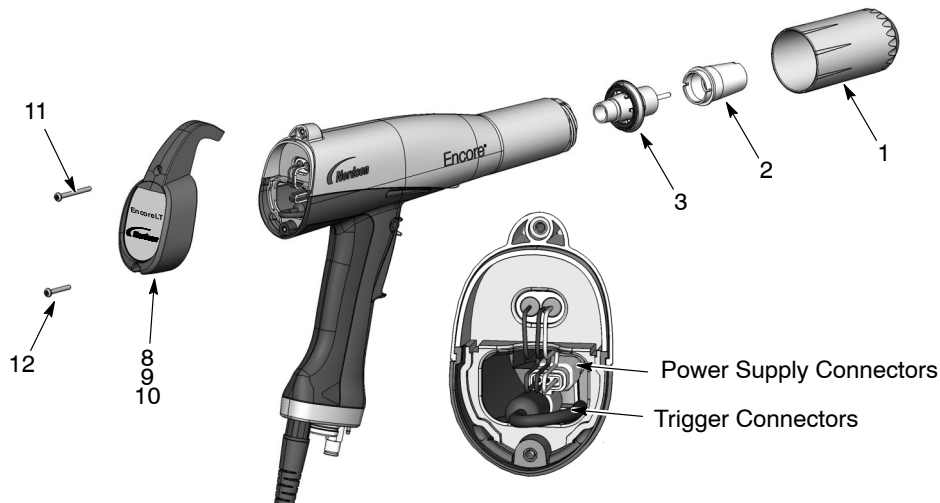
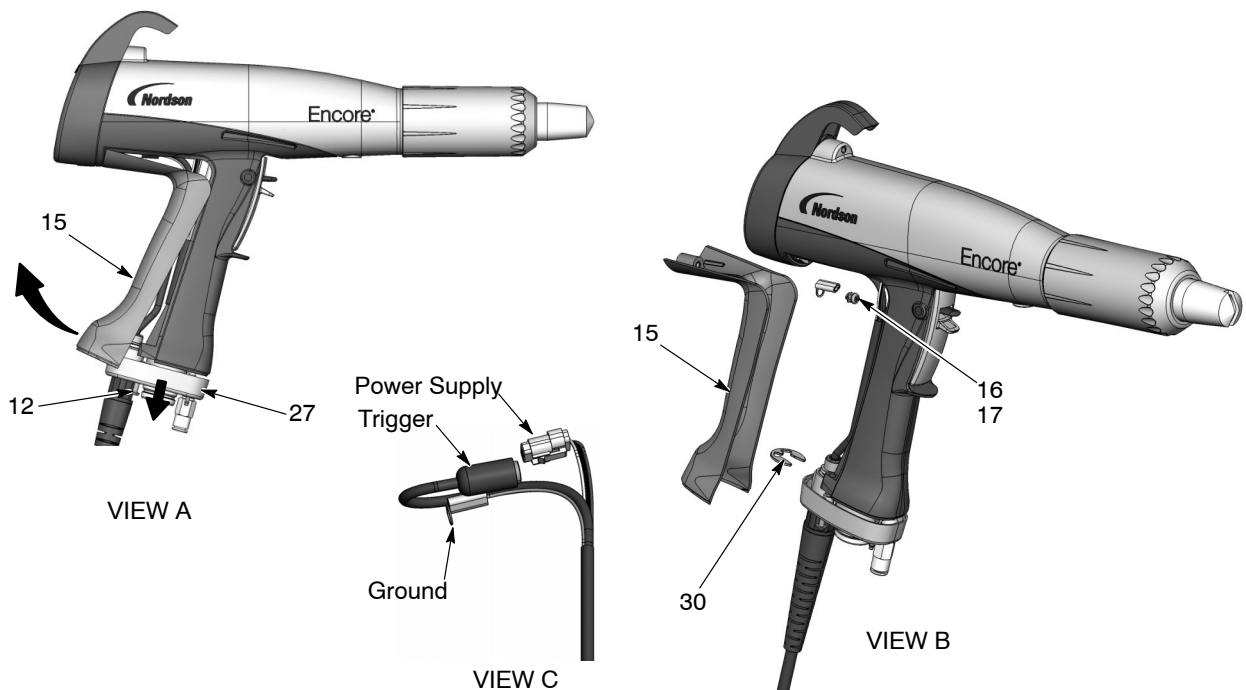

Figure 6-1 Gun Disassembly
Figure 6-6 Cable Replacement
1. See Figure 6-1. Remove the nozzle nut, nozzle, and electrode assembly (1, 2, 3).
4. See Figure 6-1. Install the cover, housing, and hook as shown.
5. Install the electrode assembly (3) into the front of the gun body. Make sure the wire electrode is not bent or broken.
6. Install the nozzle (2) on the electrode assembly, making sure the keys in the electrode assembly slide into the slots on the nozzle.
7. Install the nozzle nut (1) over the nozzle and rotate clockwise to secure.
2. See Figure 6-1. Remove the bottom screw (12) from the housing (9).
3. See Figure 6-6, View A. Loosen the two M3 x 20 screws (12) securing the handle base (27) to the handle.
4. Pull the base away from the handle enough to free the bottom edge of the ground pad (15) from the base.
6. See Figure 6-6, View B. Remove the M3 x 8 screw, lock washer (16, 17), and ground terminal from the ground pad.
7. Remove the E-ring (30) from the cable.
8. See Figure 6-6, View C. Pull the cable connectors out of the handle. Disconnect the power supply harness from the gun cable by inserting a small flat-bladed screw driver in the slot of the power supply harness connector to release the catch.
1. See Figure 6-6. Feed a new cable through the handle base, then install the E-ring (30) on the cable to hold it in place.
3. Connect the cable terminal to the ground pad (15) with the M3 x 6 screw and lock washer (16, 17).
6. Push the handle base (27) up against the handle and ground pad, and tighten securely the two M3 x 20 screws (12) in the base.
7. See Figure 6-1. Install the bottom M3 x 20 screw (12) in the housing (9) and tighten it securely.
1. See Figure 6-6. Remove the ground pad as described in *Cable Removal* steps 1–5 . You do not have to disconnect the ground cable from the ground pad.